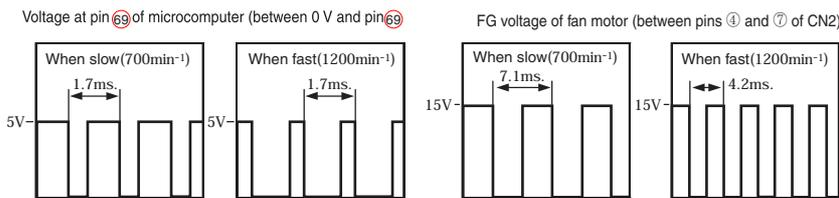

Fig. 3-2
- The VS receives a command voltage from the microcomputer. The VS terminal undergoes an analog voltage that matches the Lo level time ratio of the pulse signal from pin ④⑤ of the microcomputer. (See Fig. 3-2.)